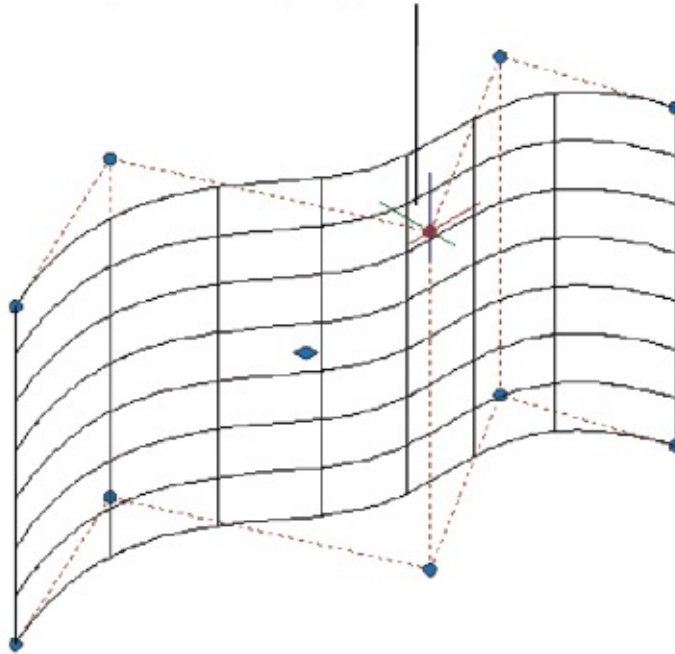

FIGURE 23.54 Exposing the CVs
3. Click the surface to select it, and then click the CV, as shown in Figure 23.54.